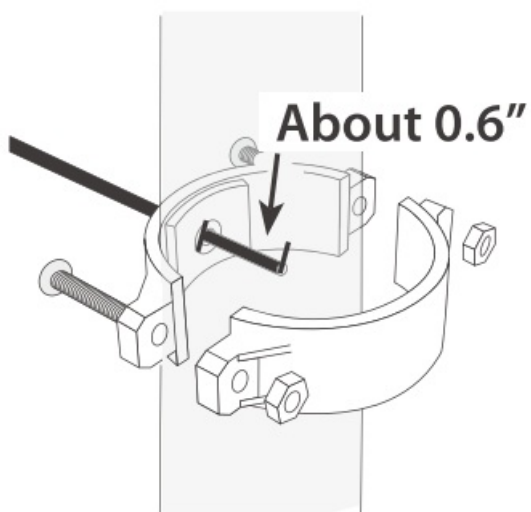

Figure 7
3. Slip the front plate on one end of the tubing (without mark), and insert the tubing into the drilled hole up to about 0.6" (**Figure 7**);